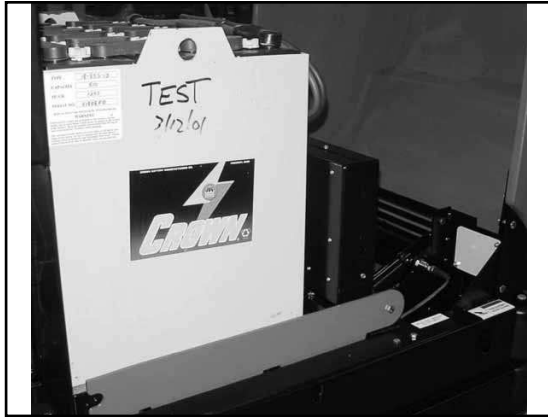

FIGURE 60
1. Fig. 60. Lift the machine front cover to access the battery.